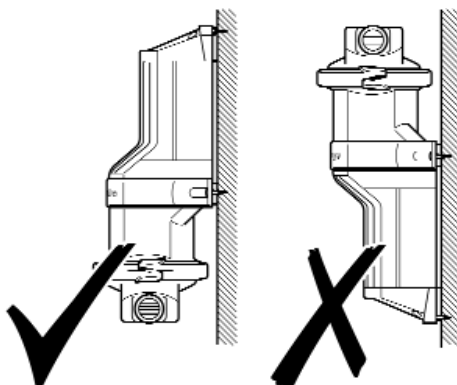

Fig. 2 - Pump Orientation
- FIG 2 PUMP ORIENTATION
- When mounted vertically ensure that the pump head is lower most (see Fig 2).